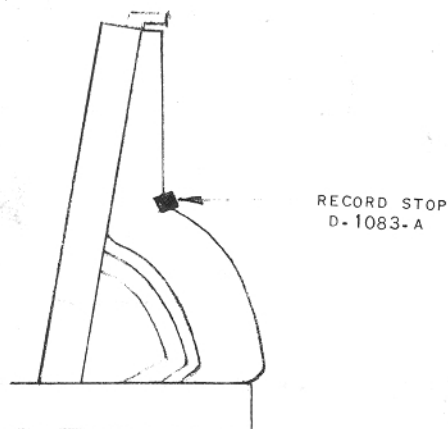

FIGURE 6. RECORD STOP.
- A. Install the rubber record support in the center of the rack curve (See Fig. 6).